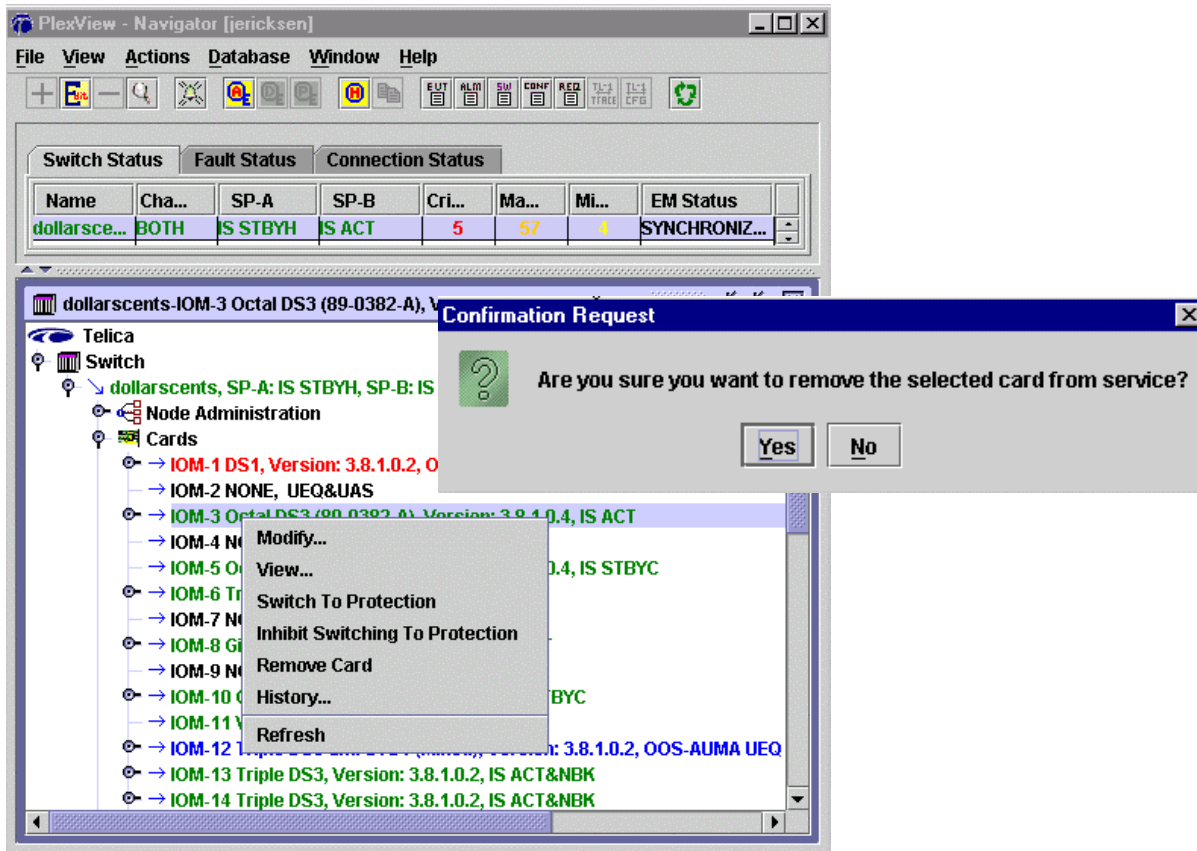

Figure 1. Removing a Module
4. Double-click the switch to select it for the main panel and then double-click *Cards*. Right-click the desired IOM and then select *Remove Card*. A confirmation screen will appear. Select Yes to remove the module. Refer to Figure 1.